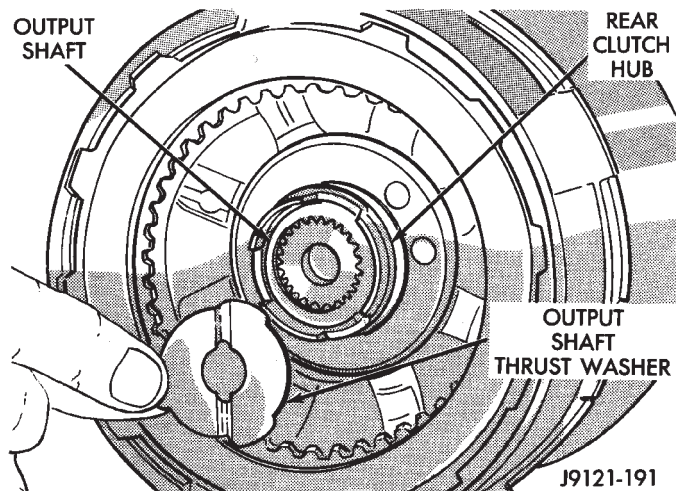

Fig. 144 Installing Output Shaft Thrust Washer
(5) Coat output shaft thrust washer with petroleum jelly. Then install washer in rear clutch hub (Fig. 144). Use enough petroleum jelly to hold washer in place. **Be sure grooved side of washer faces rearward (toward output shaft) as shown.** Also note that washer only fits one way in clutch hub.